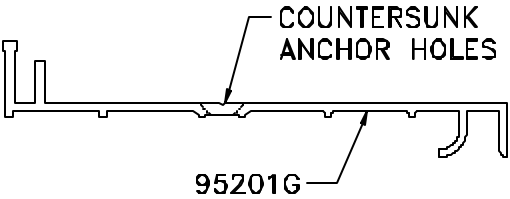

Figure 4
- STEP 5.** If necessary, drill the holes into the base members at the locations marked in Step 3 and Step 4 (see Figure 4).